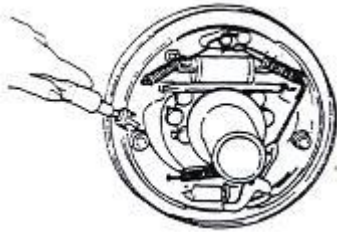

figure 2-18
(3) Disassemble the fixed spring on leading brake shoe. See figure 2-18